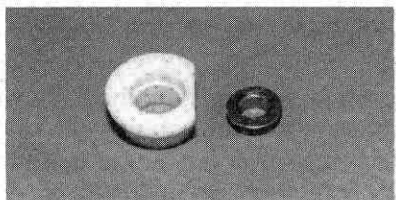

Fig. 88
□ **Fig. 88** Install the bushing or ball bearing into the adaptor.